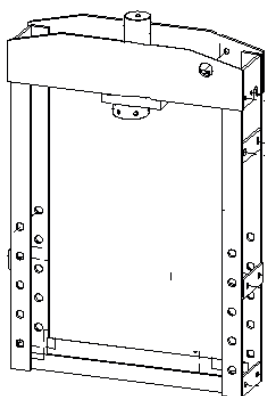
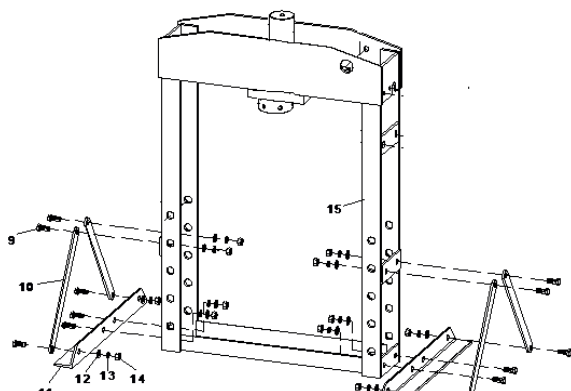

Fig. 03
Fig. 04
- Attach the base section to the frame (Fig.03) and support to left and right connecting plate. (Fig. 04)